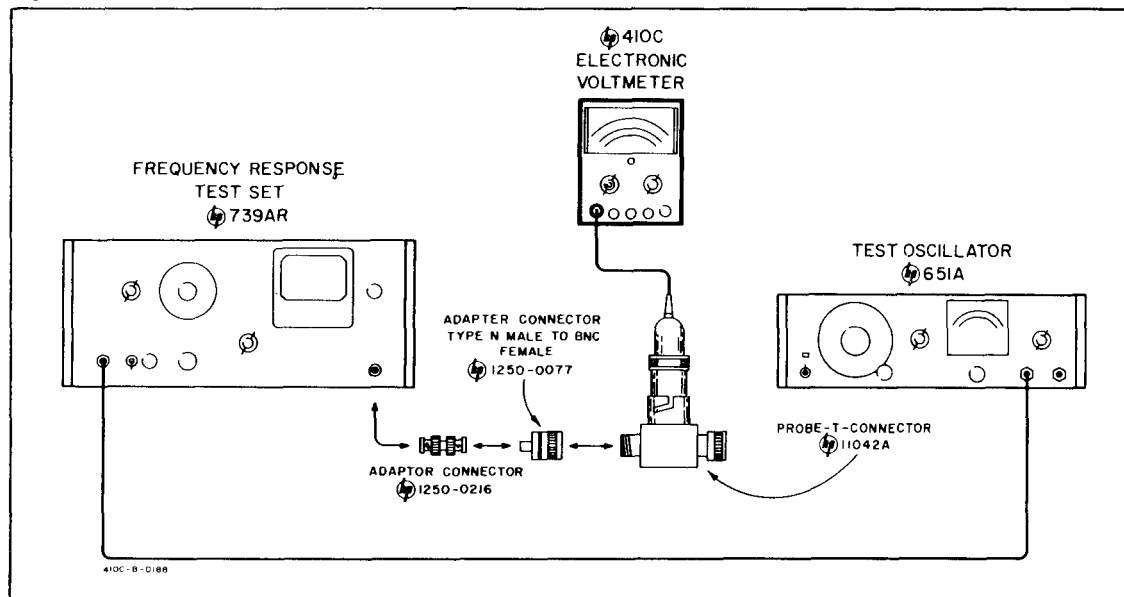

Figure 5-4. Low Frequency Response Test
- d. Remove probe tip from Model 11036A and connect the ac probe as shown in Figure 5-4.
b. Connect the Model 410C as shown in Figure 5-4. Set Model 410C FUNCTION SELECTOR to ACV; RANGE to 1.5 V.
f. Vary test oscillator frequency from 20 cps to 10 Mc. Model 410C should read between 1.25 and 1.55 v at all frequencies. When checking the frequency response from 20 cps to 50 cps, disconnect the 11042A from the test set up in figure 5-4. Replace the probe tip on the Model 11036A and connect directly through a 50-ohm load to the output of the Frequency Response Test Set. Connect the output of the Test Oscillator directly to the input of the Frequency Response Test Set. Observe step g throughout the entire operation.